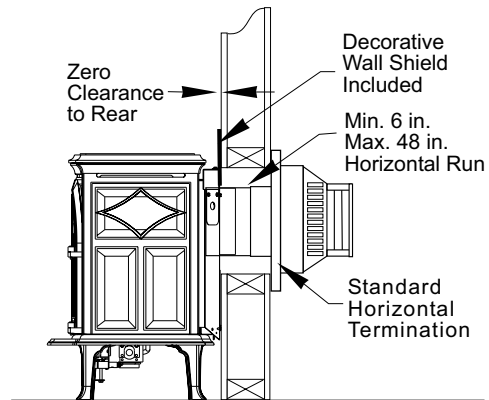

Figure 11. Min. / Max. Horizontal Run
- The minimum horizontal run made directly off the rear of the stove into a standard horizontal cap shall be no less than a 6" (152 mm) vent section. See fig. 11.
- The maximum horizontal run made directly off the rear of the stove into a standard horizontal termination must not exceed 4 ft. (1219 mm) See fig. 11.